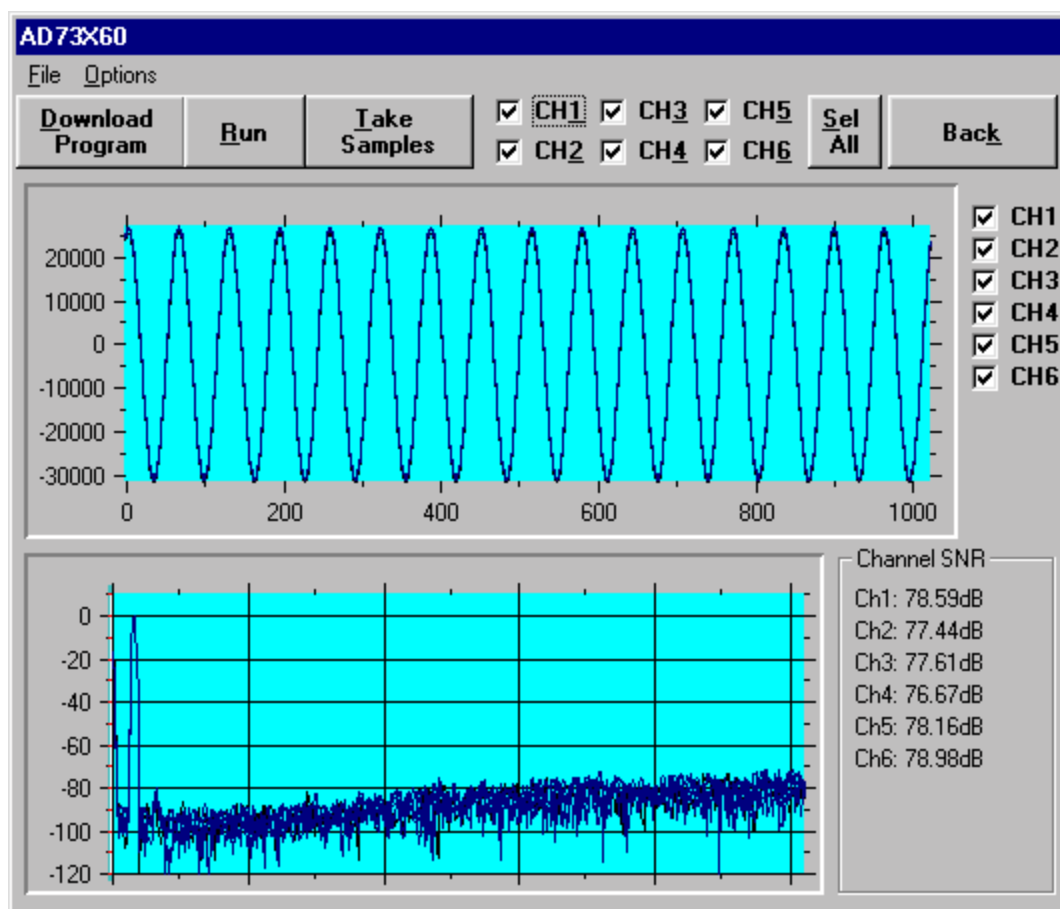

Figure 4. The Demonstration Screen
The Demonstrations Screen will allow the user to select one of a number of demonstration programs which will program the AD7360(L) and read data from one or more selected channels. Figure 4 shows the Demonstrations Screen.